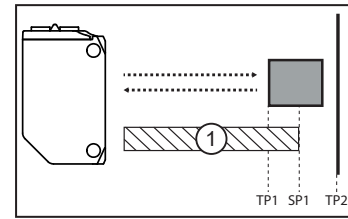

Fig. 5: Position switch point [SP1]
- ▶ The switch point [SP1] is between object and background (fig. 5).